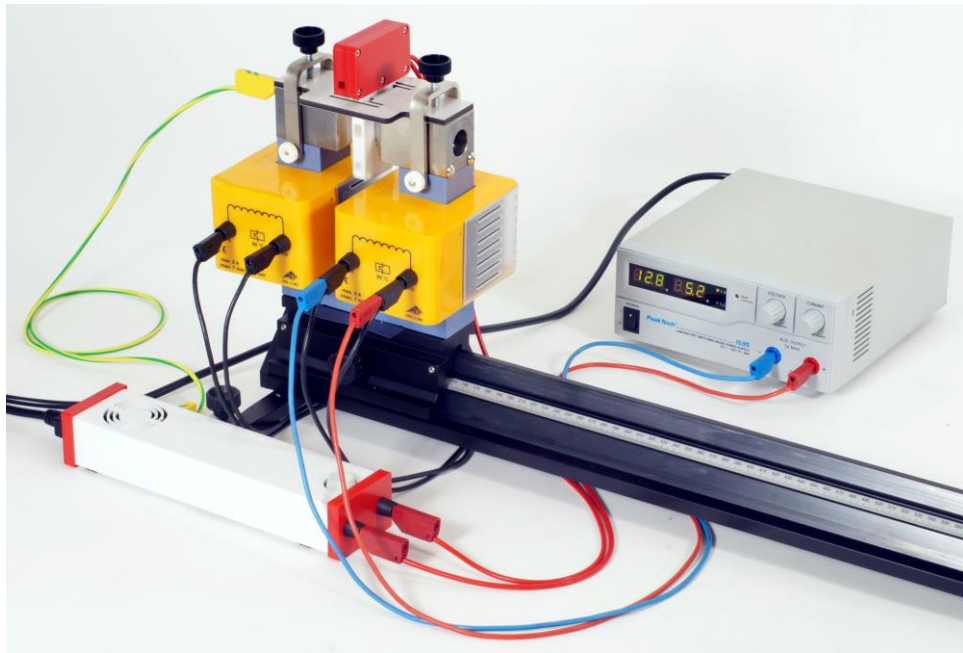
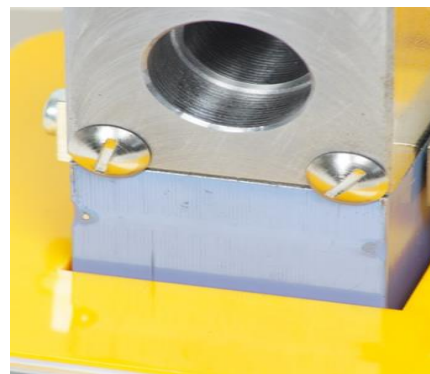

Fig. 1: Fully assembled electromagnet with cadmium lamp attached.
Fig. 2: Pole piece correctly attached to U-shaped core.
- Make sure that the pair of screws (safety locks) for both pole pieces are externally flush against the arms of the U-shaped magnet core (Fig. 2).
- Put the coils onto the arms of the U-shaped core as shown in Fig. 1.
- Put the pole pieces onto the arms of the U-shaped core as shown in Fig. 1. Make sure that the conical poles themselves are directly opposite one another and that the flat ends of the pole pieces are flush against the arms of the U-shaped coil (Fig. 2). Use the two pairs of screws to help with the positioning.
- Connect the two coils to the DC power supply with opposing polarities (connect the “0” and “900” taps in each case) (Fig. 1).